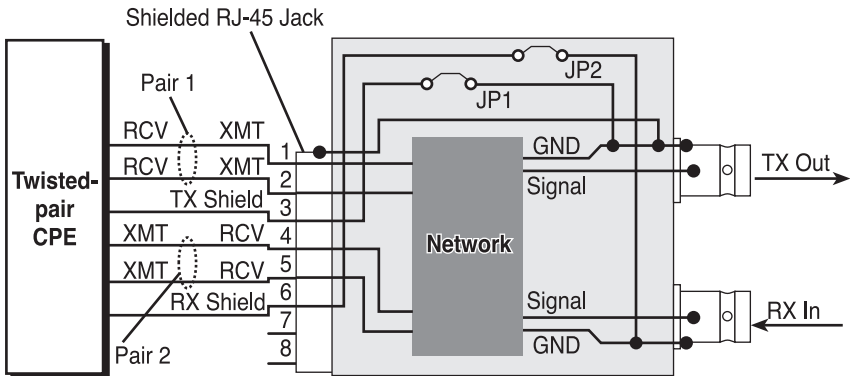

Figure 1. Model 460 functional diagram
- Pins 1 and 2 (see Figure 1) are the balanced inputs. The balanced signals are converted to an unbalanced signal on the center conductor of the TX Out coax connector.
The following section describes configuring the Model 460. The Model 460 Series are preset to work in most applications without additional configuration. The only parameter that is user-configurable is whether there is a shield connection between the 75-ohm coax and 120-ohm interfaces. Figure 1 on page 5 shows how the shield is connected between the modular jack and dual BNCs. Removing the jumper breaks the shield connection.